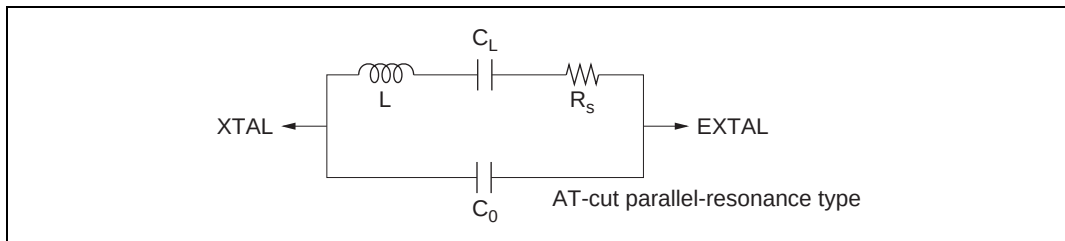

**Figure 18.3 Crystal Resonator Equivalent Circuit**
**Crystal Resonator:** Figure 18.3 shows the equivalent circuit of the crystal resonator. Use a crystal resonator that has the characteristics shown in table 18.3 and the same resonance frequency as the system clock ( $\phi$ ).